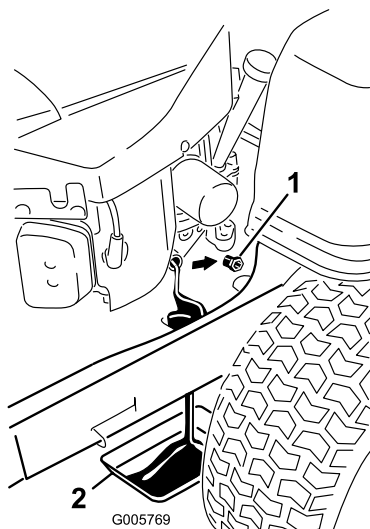

Figure 26
5. Clean the area around the drain plug and on the machine frame. Place a pan underneath machine directly below the drain hole in the frame as shown in (Figure 26).
6. Remove the oil drain plug (Figure 26). Remove the oil fill cap/dipstick (Figure 26).
7. When oil has drained completely, install the oil drain plug. Wipe up any excess oil on the frame (Figure 26).
8. Slowly pour approximately 80% of the specified oil into the filler cap (Figure 26). Refer to Servicing the Engine Oil.